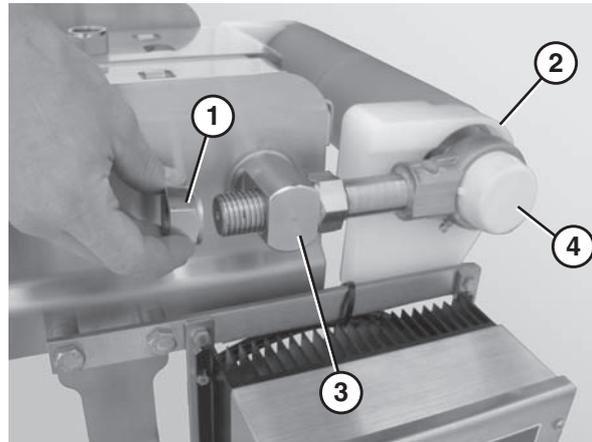

Figure 66
1. Remove the back nuts (**Figure 66, item 1**) on both idler tail shafts.
2. Slide the idler tail assembly (**Figure 66, item 2**) out of the take up blocks (**Figure 66, item 3**).
3. Remove the bearing covers (**Figure 66, item 4**).